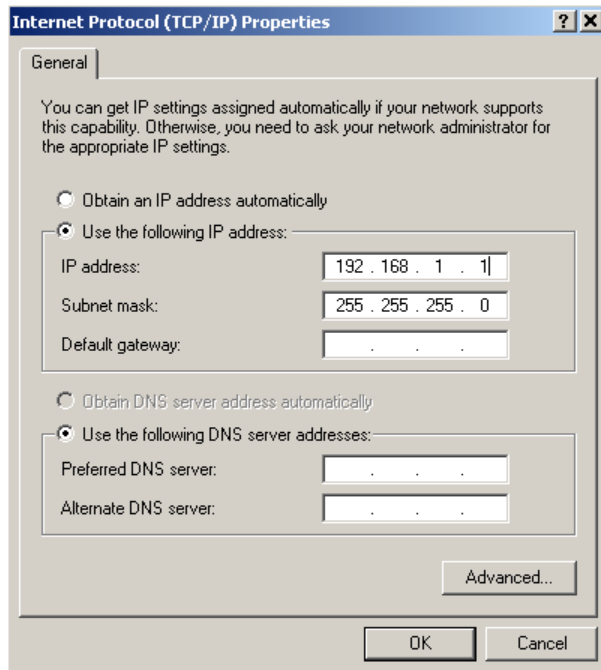

Figure 4.34c: TCP/IP Properties
- e. Select the item "use the following IP address:" and fill in the address window with 192.168.1.1 as shown in Figure 4.34c. The window labeled "subnet mask will fill in automatically with the numbers as shown when the IP address is entered. Leave the "Default gateway", "Preferred DNS server", and "Alternate DNS server" windows blank.